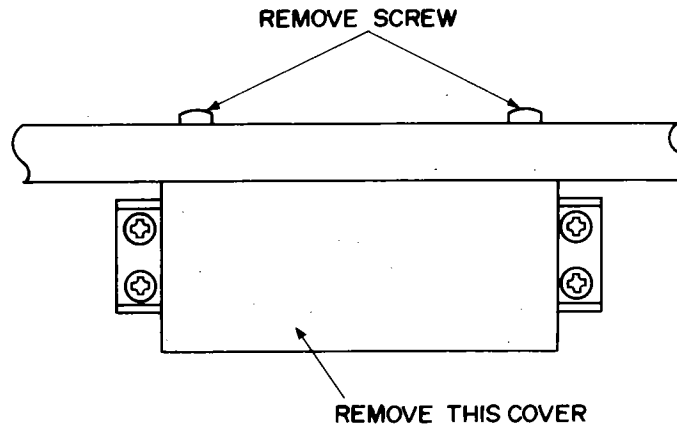

Figure 1 Remove the Terminal Cover
- (1) Remove the top cover.
- (2) Remove the Transformer Wire Connection Terminal Cover, loosen two Cover mounting screws on the rear panel, see Fig. 1